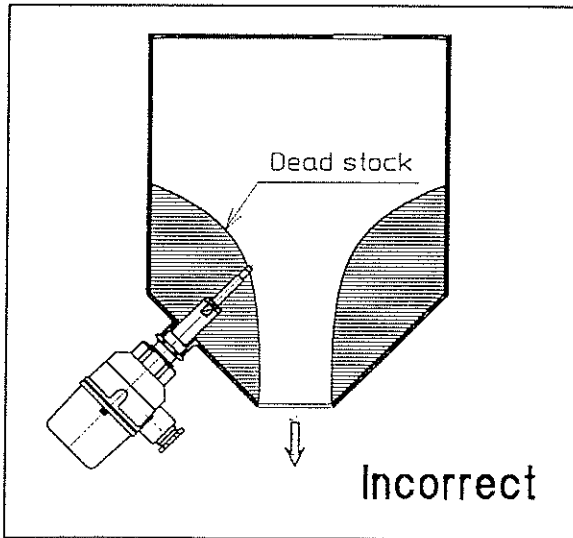

Fig. 4-4
- (5) The sensor will detect the dead stock despite there aren't any measuring materials. 【See Fig. 4-4】